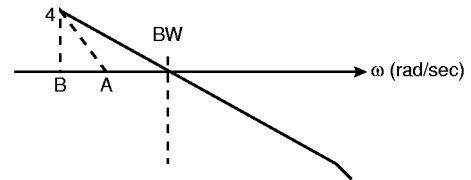
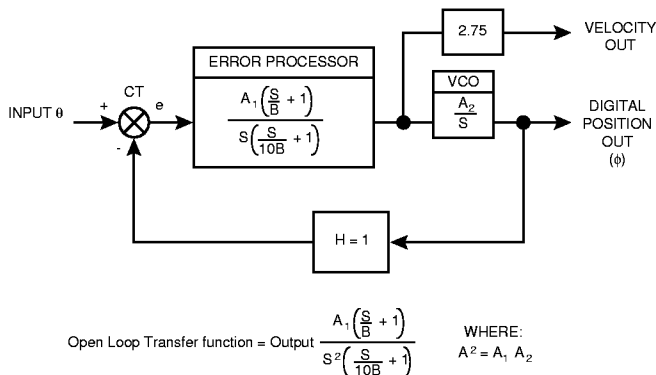

FIGURE 8. OPEN LOOP BODE PLOT
FIGURE 7. CONTROL LOOP BLOCK DIAGRAM
A Type II servo loop ( $K_v = \infty$ ) and very high acceleration constants give the SDC-14560 superior dynamic performance, as listed in TABLE 2. If the power supply voltages are not the  $\pm 15$  V DC nominal values, the specified input rates will increase or decrease in proportion to the fractional change in voltage. A Control Loop Block Diagram is shown in FIGURE 7, and an Open Loop Bode Plot is shown in FIGURE 8. The values of the transfer function coefficients are shown in TABLE 3.
The Velocity output (VEL) from the SDC-14560 is a DC voltage proportional to angular velocity  $d\theta/dt = d\phi/dt$ . The velocity input is the second integrator, as shown in FIGURE 7. Its linearity is dependent solely on the linearity of the voltage controlled oscillator (VCO). Due to the highly linearized VEL output, the electro-mechanical tachometer can now be eliminated from motion control systems. Bandwidth (BW) and the acceleration constant ( $K_a$ ) can be determined from the formulas shown: